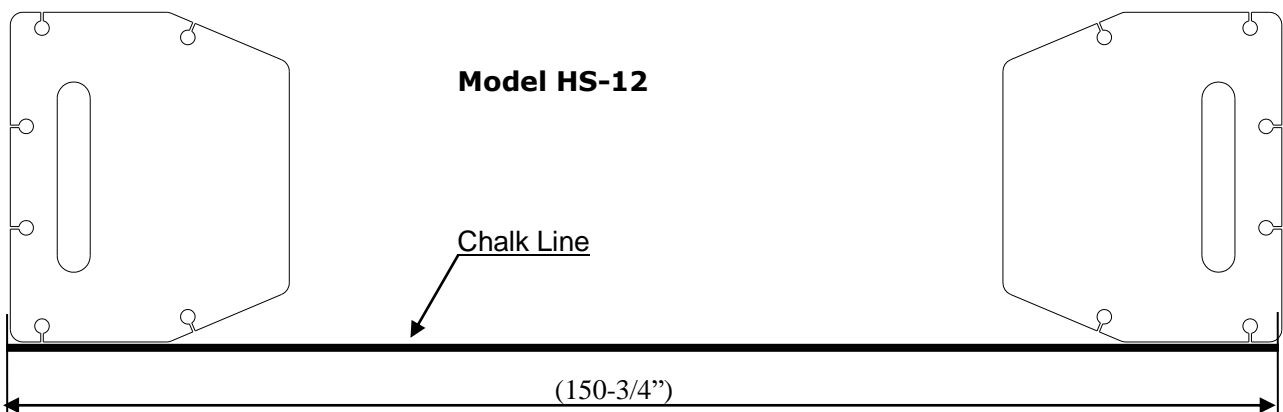

Fig. 5
B. Use a carpenter's chalk line to establish installation layout of base plate (See Fig. 5).